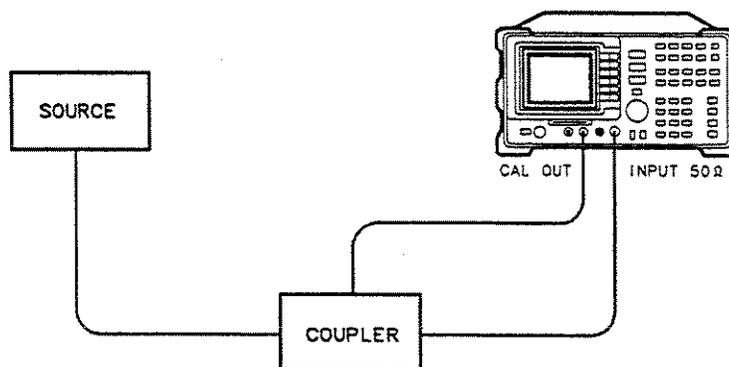

Figure 2-1. Set-Up for Obtaining Two Signals
1. To obtain two signals with a 100 kHz separation, connect the calibration signal and a signal source to the analyzer input as shown in Figure 2-1. (If available, two sources can be used.)